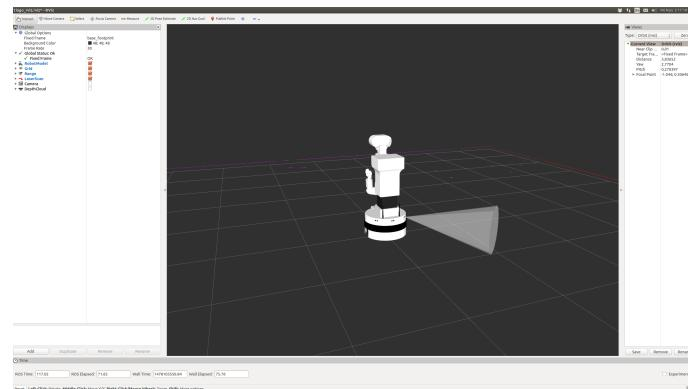

Figure 5.3: TIAGo robot displayed in rviz with all its sensors.
9.- Use the *key_teleop* demo to move around the robot and see how the data is displayed on rviz (see Fig. 5.3).